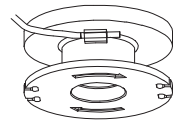

Fig. 26
2. Hold the trimmer head (13) steady with one hand. Press the release latches (13b) on both sides to remove the cover (13a).
7. Lead one end of the new trimming line (13d) through the small eyelet on the trimming spool (13c) in direction of the arrows (Fig. 26). Fig. 26